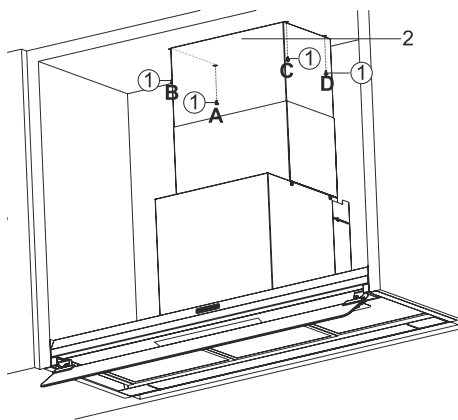

Fig. 16
- 7.** ➔ Pull the interior flue up to the top section of the cabin (Fig. 16).
Using the 4 connection screws through the A, B, C, D points to the kitchen cabin (Fig. 16).